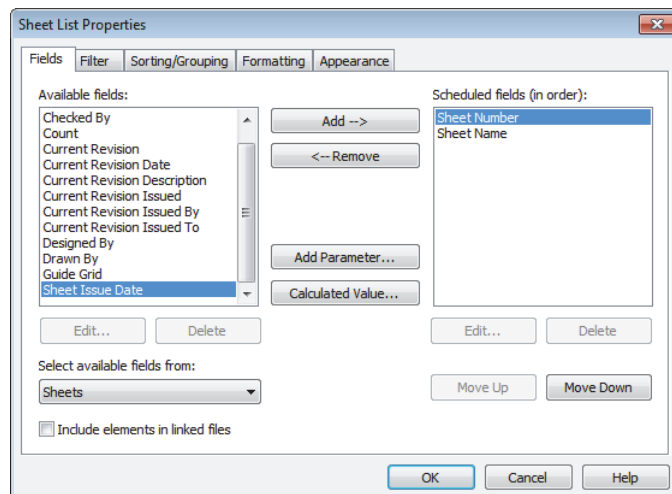

Figure 1–59
4. The Sheet List schedule opens with the two existing sheets listed. Stretch out the columns, as shown for an architectural project in Figure 1–60.